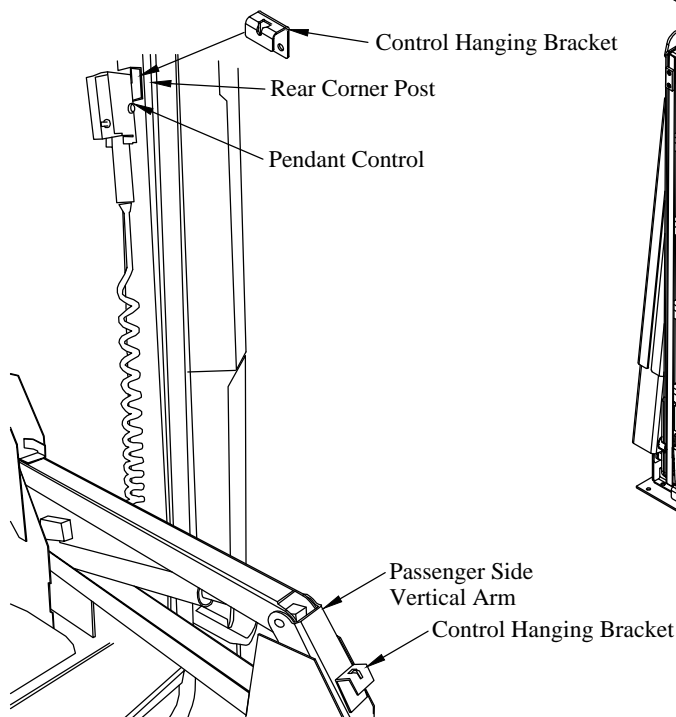

Figure 22: Control Hanging Brackets.
7. **Install** a control hanging bracket with supplied 3/8" bolts on the passenger side vertical arm where the lifting angle was removed (Figure 22).
9. **Select** a location to install a second control hanging bracket. Use a location on the passenger side rear corner post of the vehicle at a height that allows the entire pendant cord to be completely inside the vehicle when stored (Figure 22).